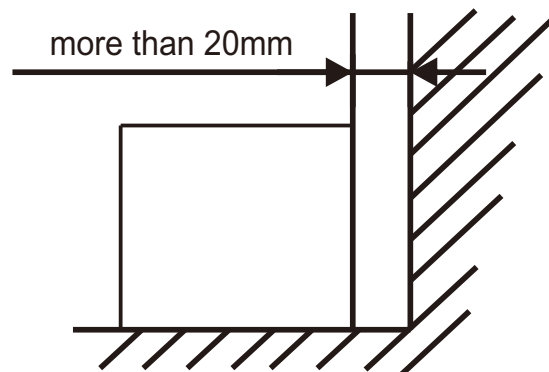

Figure 2
- The appliance requires a minimum ventilation space at sides top and rear of 20mm. The front grille must be completely unobstructed. See Figure 2.